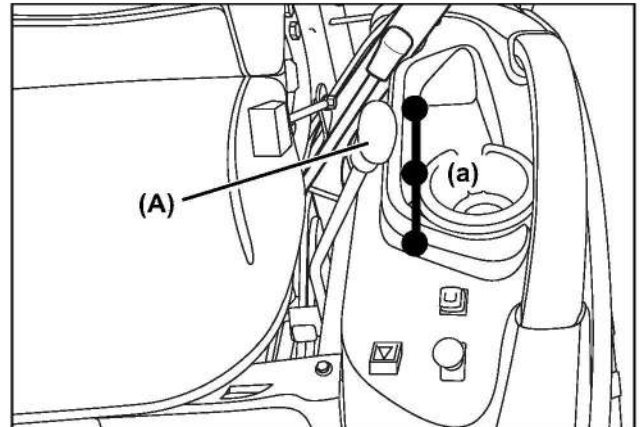

Fig 7-18
2. Move the range shift lever (Fig 7-18, A) to the N (neutral) position. (SA424)